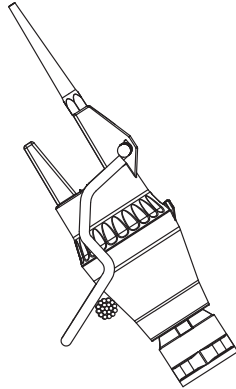

Figure 3 WSO-11 Installation Step 2
- Step 2. Position the WSO-11 so that the end of its spring clamp fits behind the conductor (see *Figure 3*).